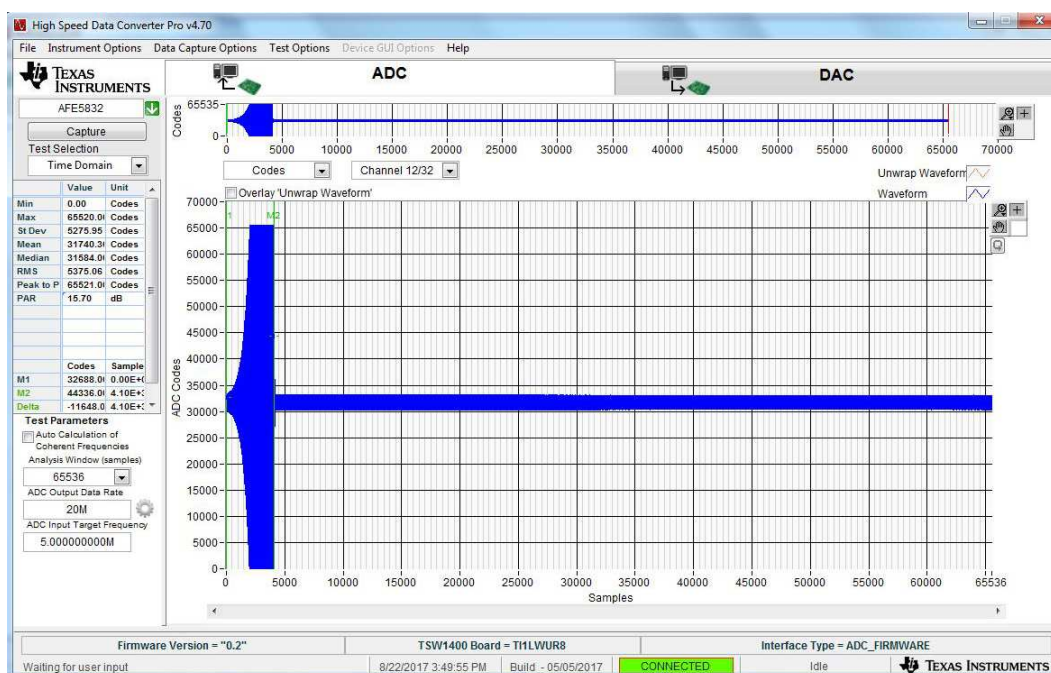

Figure 19. DTGC Mode Test: Waveform
- i. The Up-Down Ramp DTGC waveform should appear similar to Figure 19.